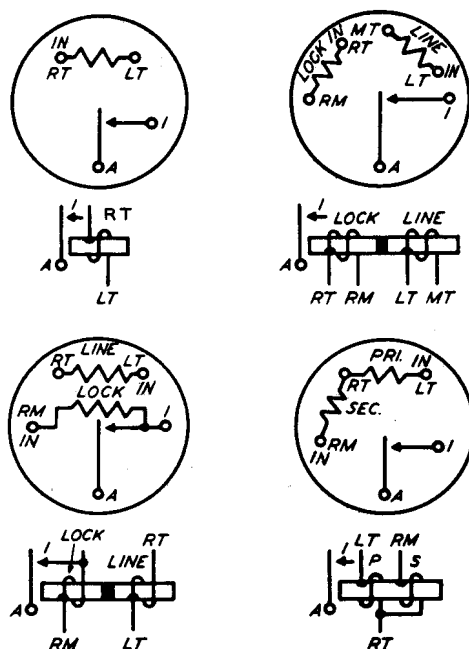

Fig. 27 — Winding and Spring Terminal Arrangement as Viewed From the Rear (terminal side) — 89-, 101-, 105-, 108-, 118-, and 172-Type Relays
**2.41** The winding and contact terminal numbering is the same as covered in 2.37. These relays are, however, always mounted as shown in Fig. 27 through 30.